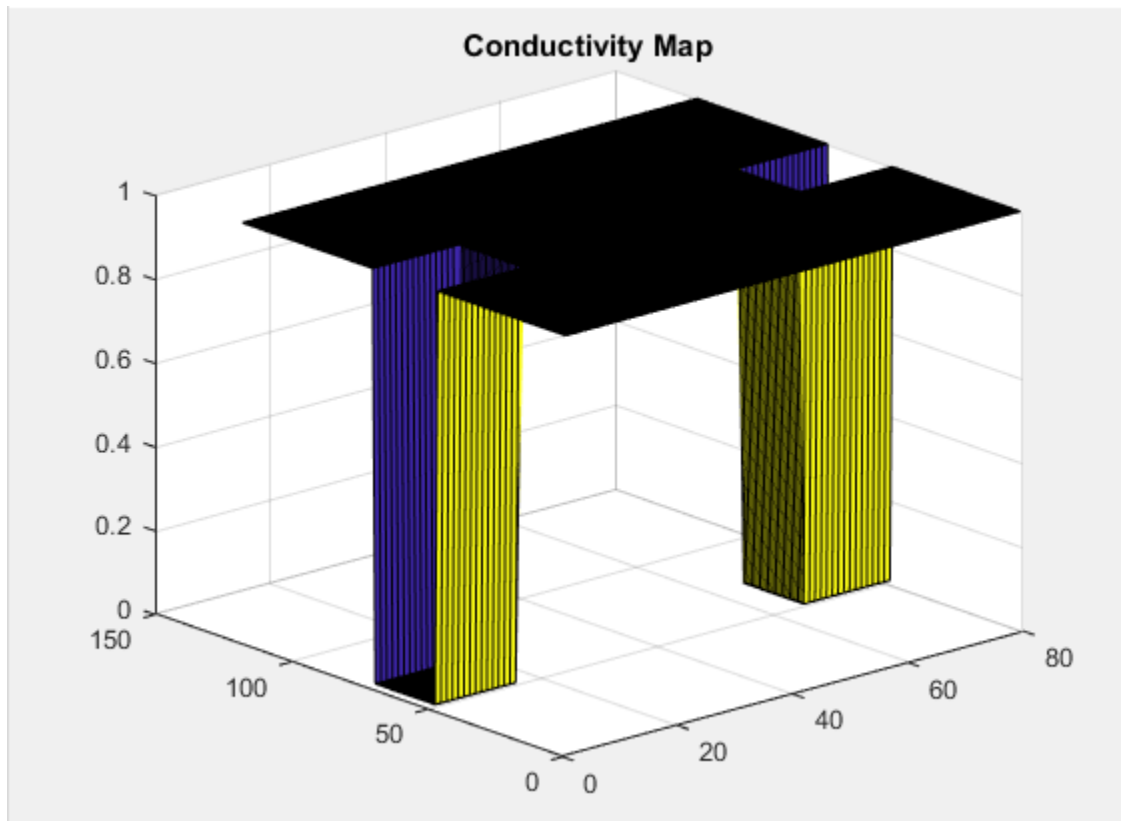

Figure 4: Conductivity map with (120, 80) mesh size
- a. The current flow at the two contacts was measured as the sum of the magnitude of current along the line connecting the two contacts (sum of currents at $L/2$). First of all, the current matrix was obtained by multiplying the voltage matrix (map) with the conductivity matrix (map). This part was done with a mesh size of $(L, W) = (120, 80)$ and the current value obtained was 2.72×10^{-6} A. Figure 4 below shows the conductivity map with the given default values.